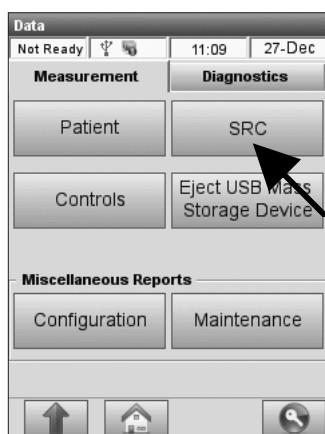

Fig. 6-30 Select Data
2. On the **<Measurement>** tab, select **<Patient>**, **<SRC>** or **<Controls>** (Fig. 6-30).